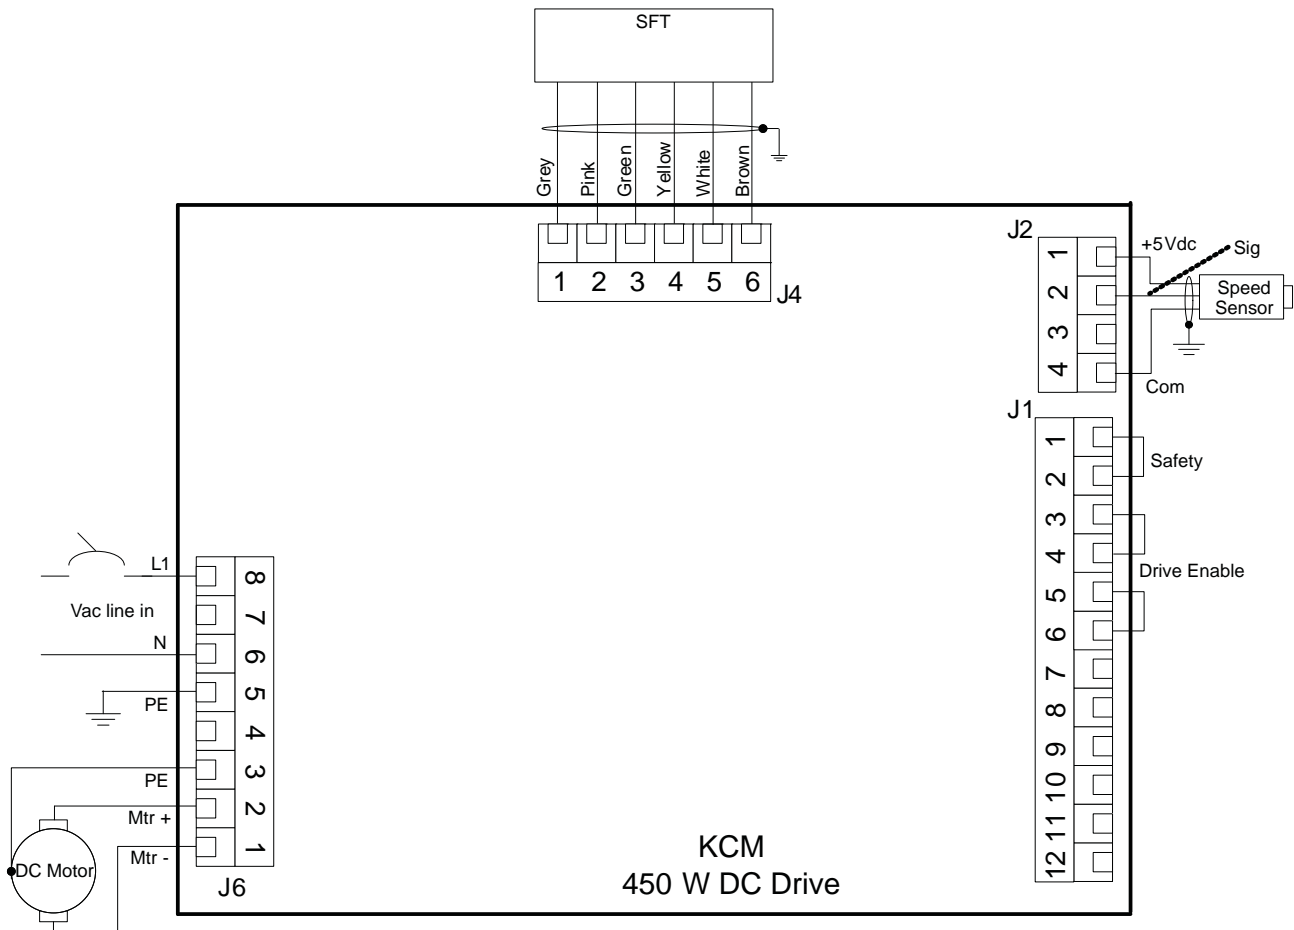

Fig. 12.9 450 watt DC drive wiring example
- ⇒ Connect KCM DC drive inputs as shown in Fig. 12.9